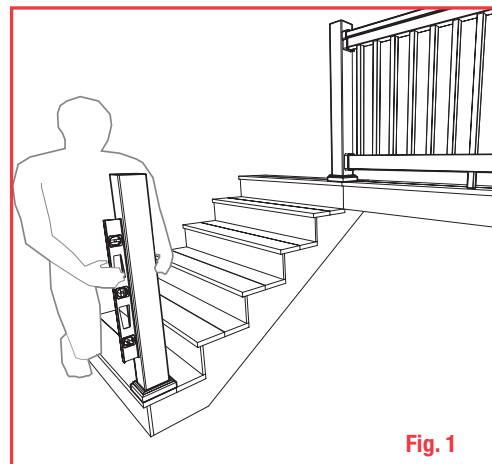

Fig. 1
- 1 Install and prepare the posts or other mounting surfaces for the Tam-Rail® Railing installation. Ensure the mounting surfaces are level and plumb. **(Fig. 1)** TAMKO recommends using the Tam-Rail® Post Mount Systems or covering the wood posts with our matching Tam-Rail® or Marquee Post Sleeves. It is acceptable for direct attachment of Tam-Rail® Railing sections to conventional 4" x 4" or larger wood posts without use of Tam-Rail® Post Sleeves.
1. Install and prepare posts for Tam-Rail® Railing installation. Ensure mounting surfaces are level and plumb. (Fig. 1) TAMKO recommends using Tam-Rail® post mount systems or wood posts covered with our matching Tam-Rail® or Marquee post sleeves. It is acceptable for direct attachment of Tam-Rail® Railing sections to conventional 4"x 4" or larger wood posts without use of Tam-Rail® Post Sleeves.